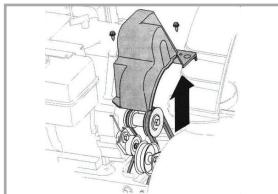

Fig.21
**NOTE:** Drain the gasoline from the snow thrower, or place of plastic under the gas cap. See Figure 21.